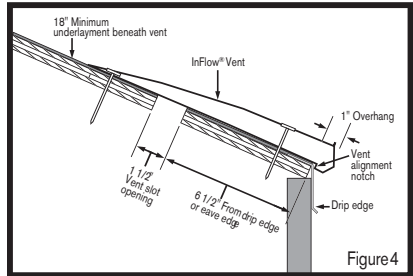

Figure 4
Step 7: Position the first InFlow® Vent flush with the rake edge, aligning the vent so the alignment notch is even with the eave edge. This will ensure the vent overhangs the eave edge by 1", allowing air intake through the bottom of the InFlow®. See Figure 4.